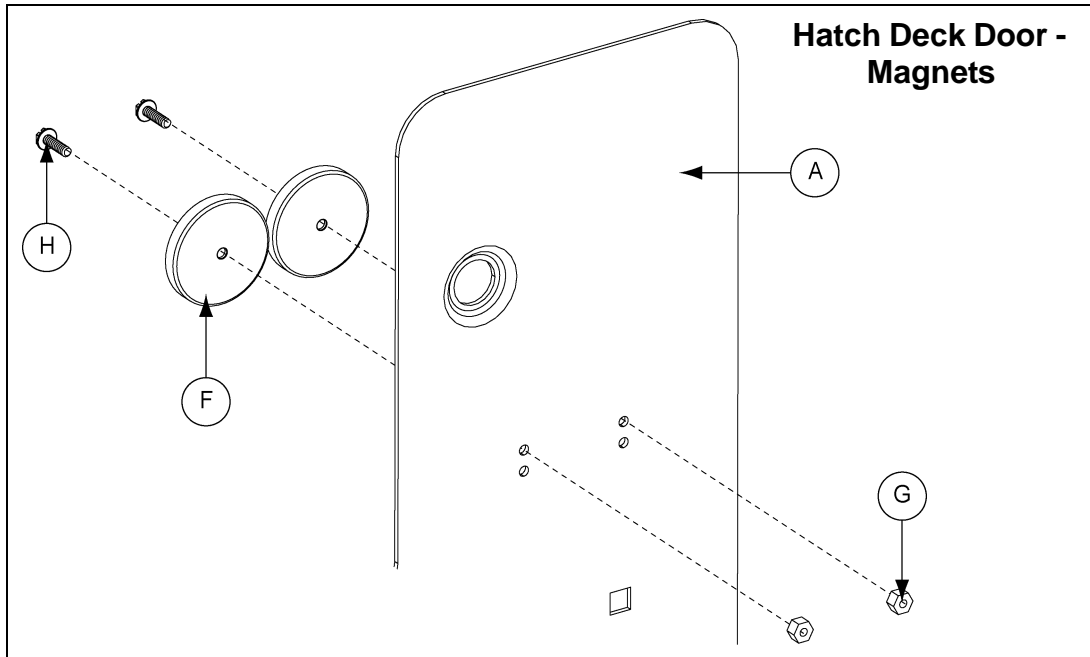

Figure 9C
- Slide two (2) magnets (16-0092) onto each MS #6 x 3/4" FHS flat head screw (S-7166). Position the magnet so the screw head is countersunk into the magnet. (See Figure 9C.)